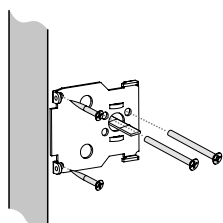

Fig. 4
3. Replace the cylinder in the door, the V5 logo should be uppermost, then from the inside secure the inner fixing plate to the door using two of the 25mm wood screws, at locations shown (Fig.4). It may be necessary to drill pilot holes using a 3mm bit to a depth of 20mm.
4. Now the two M4 bolts are used to connect the cylinder assembly to the backplate. Insert the bolt through the top pair of holes in the inner fixing plate, locate into the cylinder assembly and tighten so all components are firmly fixed (Fig.4). On doors which are less than 45mm thick the screw will need shortened to suit.